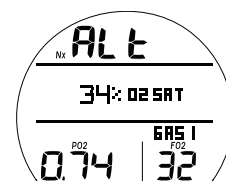

Fig. 47 - NO DECO ALT 3
*If Max Depth & EDT are both on the Main, ALT 3 (Fig. 47) becomes ALT 2.
No Deco Alt 3, information includes (Fig. 47) -
- #4 >> is similar to No Deco ALT 3 (Fig. 47).